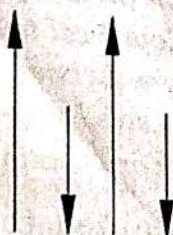

Fig. 3.25
- v. Spin alignment is antiparallel of different magnitudes (Fig. 3.25).